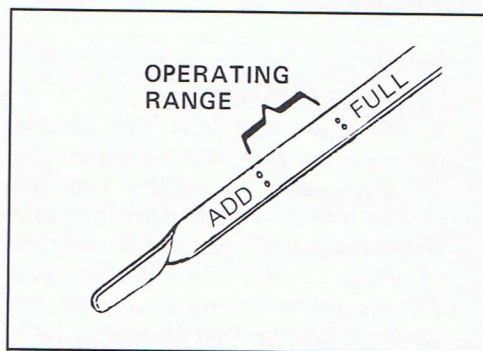

Figure 2 - Oil dipstick
2. Add oil if needed, to keep the oil level above the "ADD" line. See Figure 2. Avoid overfilling the engine since this may cause